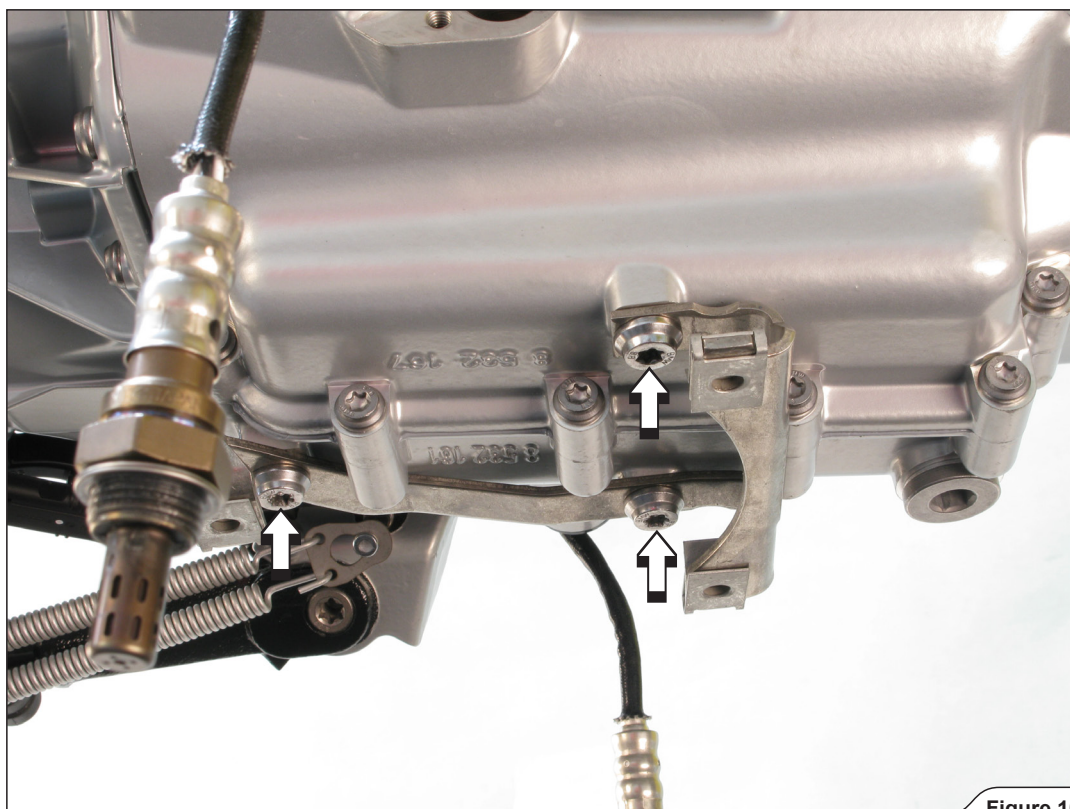

Figure 10
10. Unscrew the marked bolts and remove the skid plate's bracket off the motorcycle (**Figure 10**).